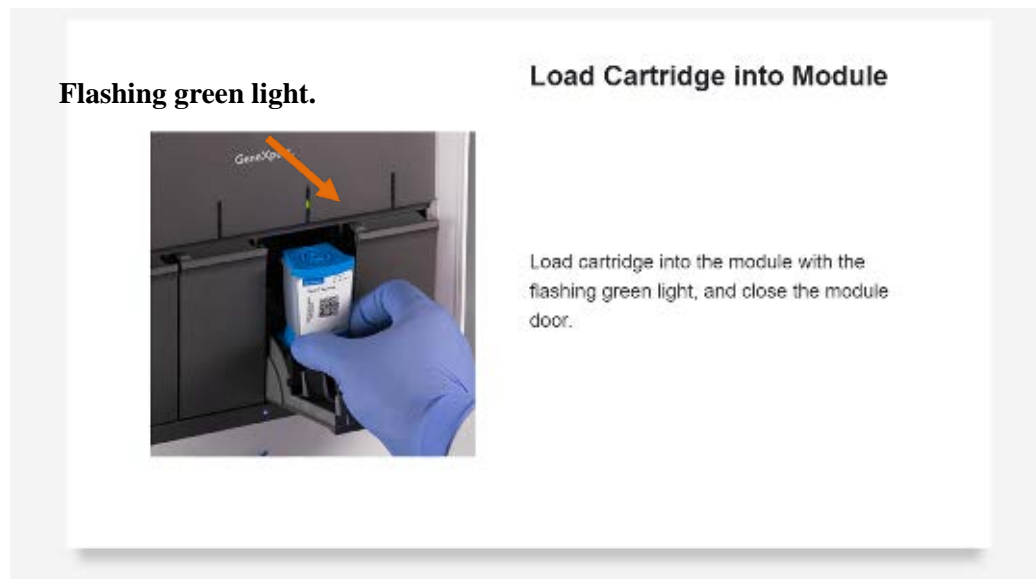

Figure 29. Load Cartridge into Module Screen
1. Touch the **CONTINUE** button on the Cartridge Preparation screen. The Load Cartridge into Module screen appears (see Figure 29).